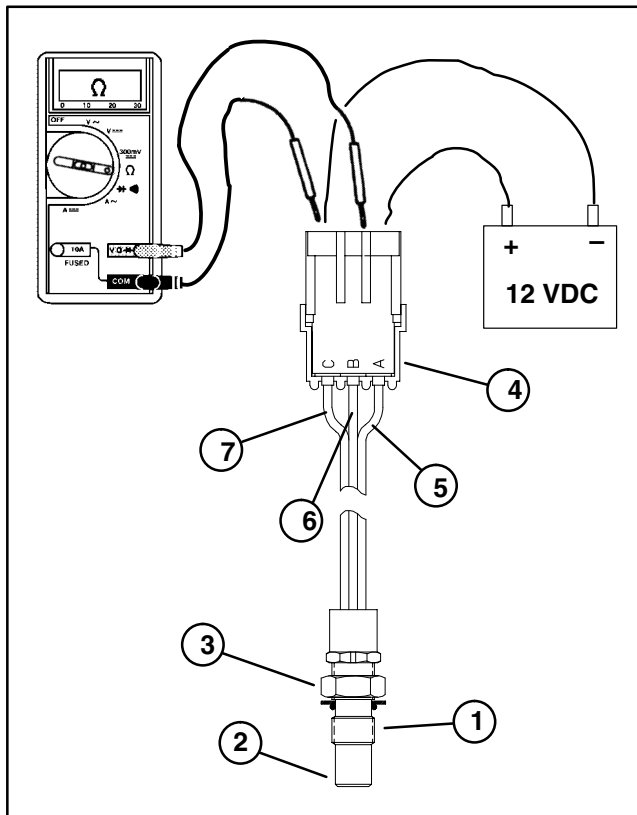

Figure 21
2. Using a multimeter, connect the positive meter test lead to the sensor connector white wire (terminal B) and the negative meter test lead to the connector black wire (terminal C) (Fig. 21). Set multimeter to ohms setting.
3. Using jumper wires, apply +12 VDC to the sensor connector red wire (terminal A) and ground the connector black wire (terminal C) (Fig. 21).